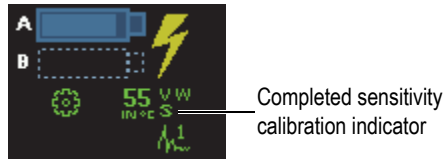

Figure 5-15 Sensitivity indicator (S) in green after calibration
The sensitivity is now calibrated. In the upper-left section of the screen, the sensitivity calibration indicator (S) turns green (see Figure 5-15 on page 132).